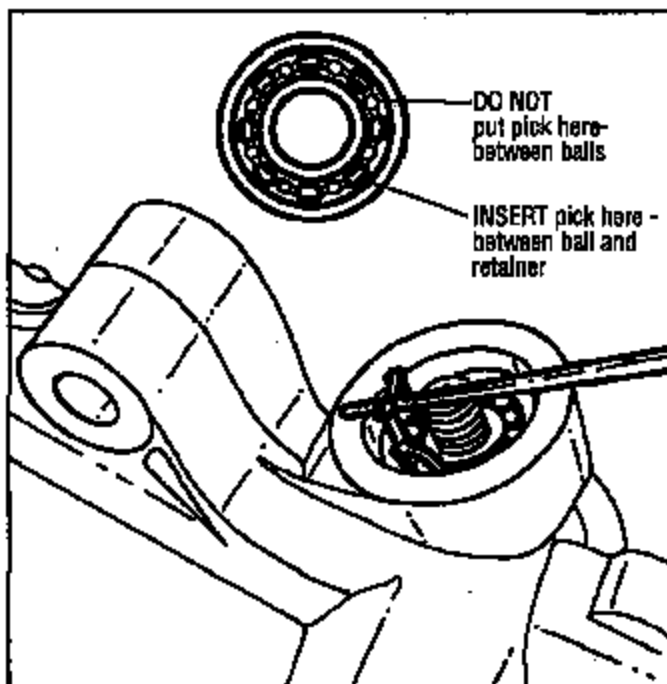

Figure 2
STEP 5 Use small pick to remove bearing retainer. (*See Fig. 2*)